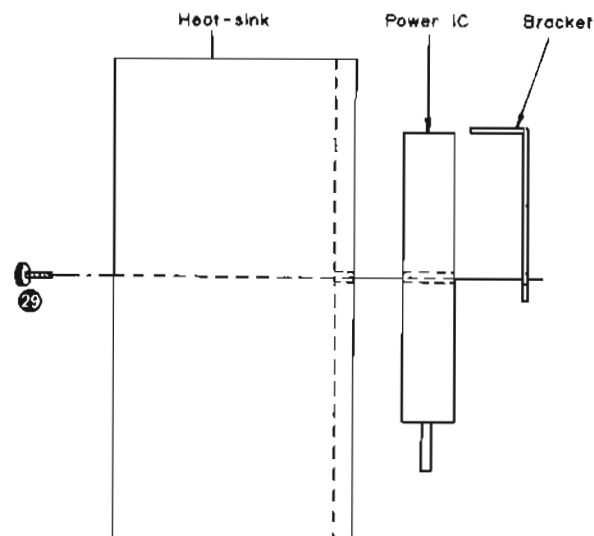

Fig. 4
5. Remove the 2 setscrews (Fig. 4: ㉔) of the heat-sink.